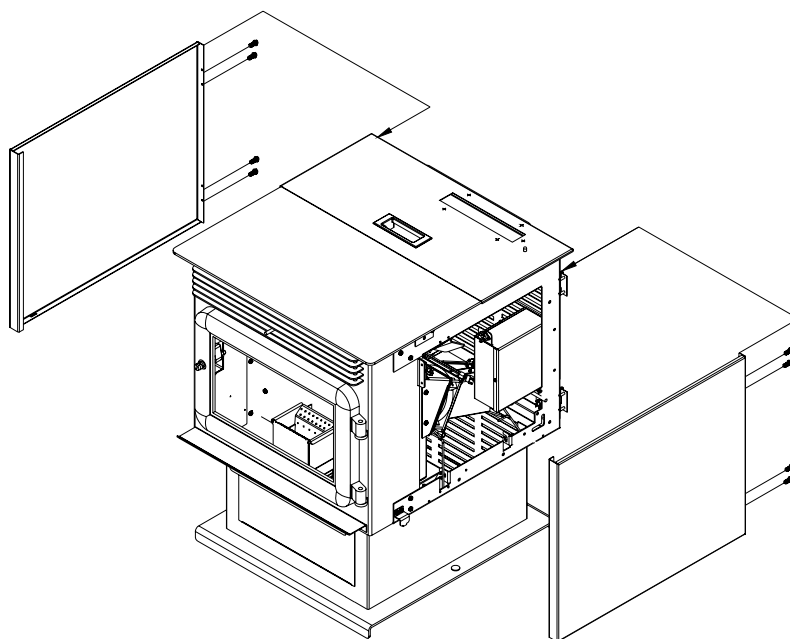

Figure 13
- 7- Mount the side panels into place. Using 2 screws per hinge.(Figure 13)